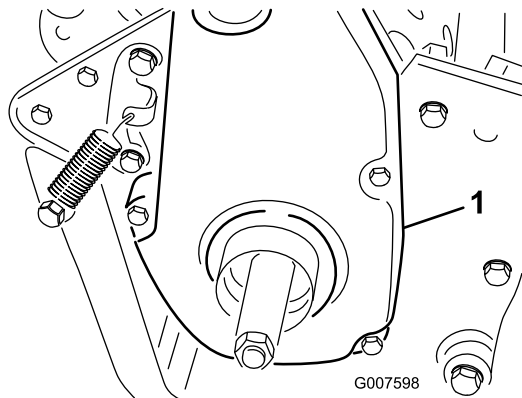

Figure 33
6. Remove the rear belt cover from the right side of the machine (Figure 33).